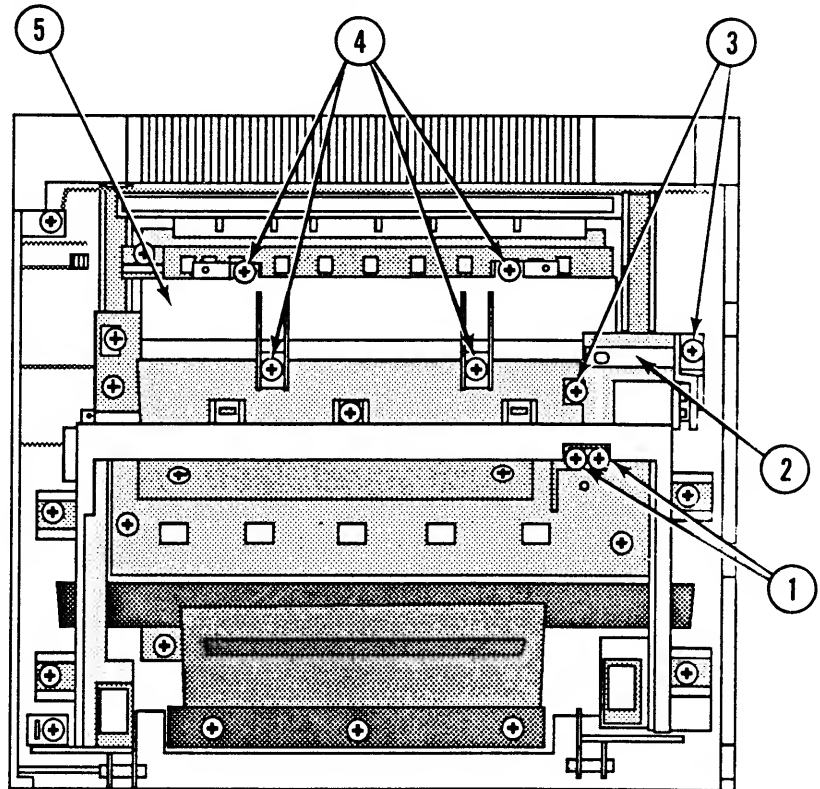

FIGURE 75
3. Remove the two Phillips screws (Figure 75, #1) that secure the preconditioning exposure assembly to the preconditioning exposure contact arm (Figure 75, #2)
4. Remove the two Phillips screws (Figure 75, #3) that secure the preconditioning exposure contact arm to the top cover. Remove the contact arm.
5. Remove the four Phillips screws (Figure 75, #4) that secure the lower delivery cover (Figure 75, #5) to the top cover and delivery assembly.